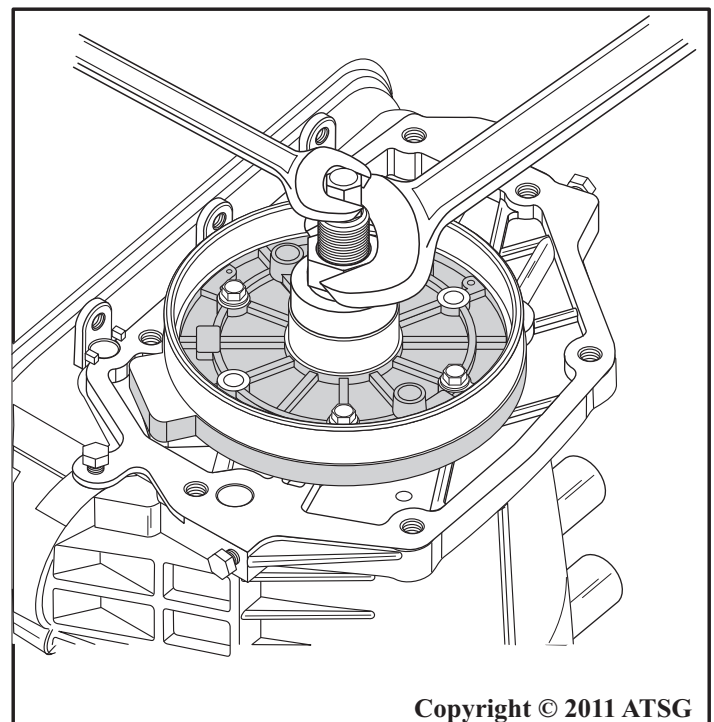

Figure 91
8. Hold puller plate and bolt in place, and install puller nut on puller bolt (See Figure 91).
9. Tighten puller nut to press clutch cam into case. Refer to Figure 91.